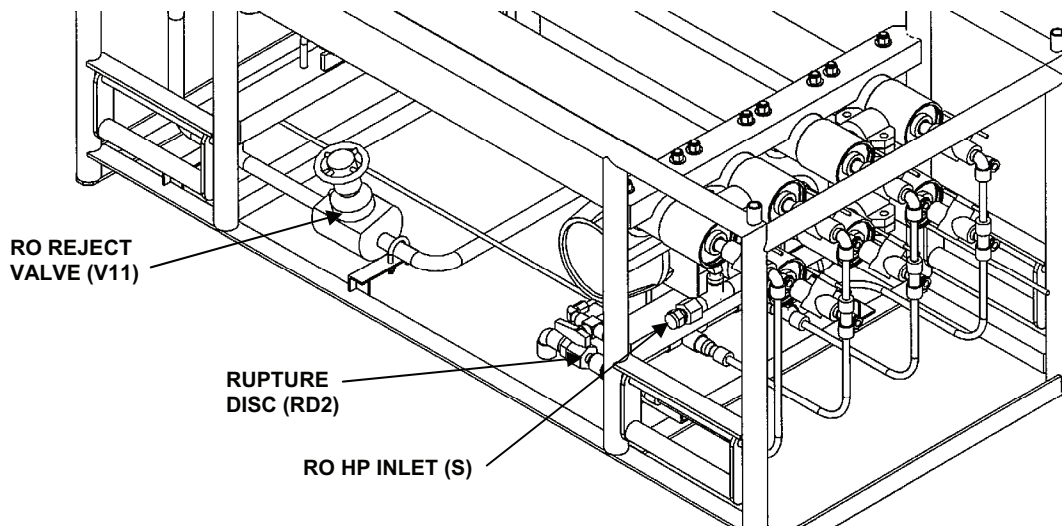
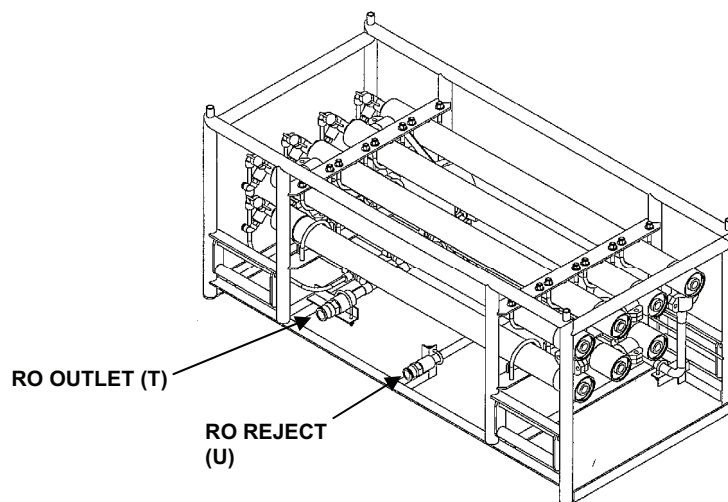

Figure 10. RO Module High-Pressure Inlet Hose Connection.
Figure 11. RO Reject and Product Hose Connection.
18. Connect the other end of high-pressure hose (braided steel) to the RO HP module inlet (S). Tighten securely. See Figure 10.
22. Connect a reject hose (red) to the RO reject outlet (U). See Figure 10 and Figure 11.
25. Connect a section of potable water hose (white) to the outlet on the RO module (T). See Figure 1 and Figure 11.
26. Connect the other end of the potable water hose (white) to the chemical module inlet (V).
3. Open reject control valve (V11) on the RO element module. See Figure 10.